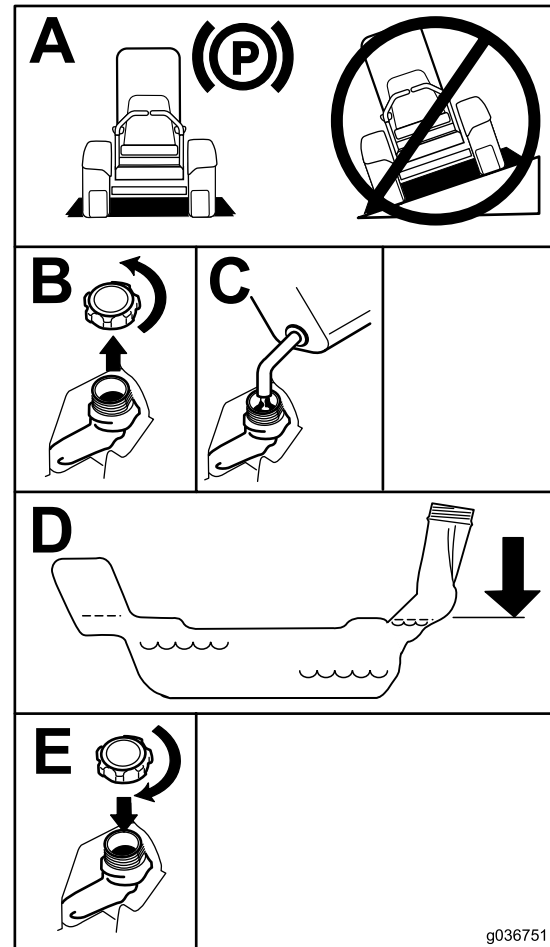

Figure 8
5. Fill the fuel tank to the bottom of the filler neck (Figure 8).